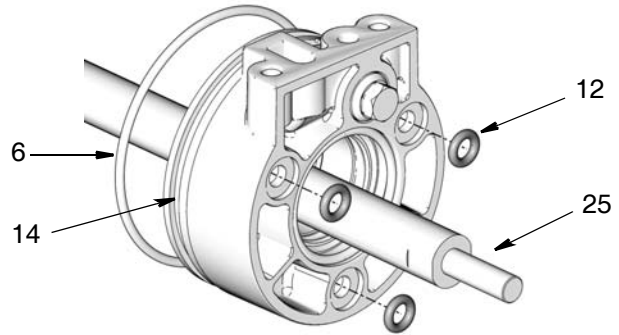

Fig. 30
- Install displacement rod (25) through flange assembly (22) (Fig. 30).
- Remove and discard the 3 small o-rings (12) and o-ring (6) in the bottom cover (14) (Fig. 30). Grease